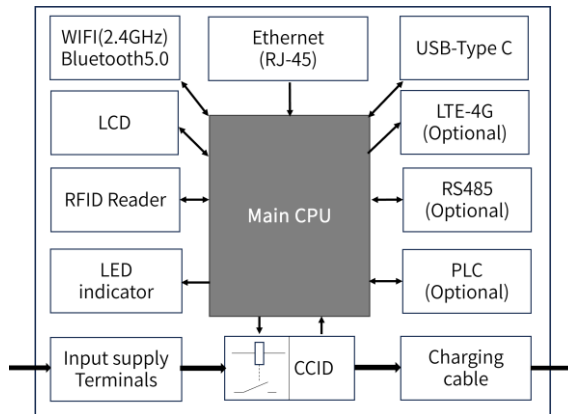

Fig. 4-2 Block diagram of VISION
- The block diagram of VISION AC EV charger is shown as Fig. 4-2.